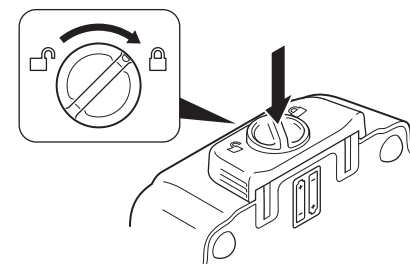

Figure 70 – Close/Lock Battery Compartment Door
3. Close the door and turn the knob to lock the battery compartment door (Figure 70).